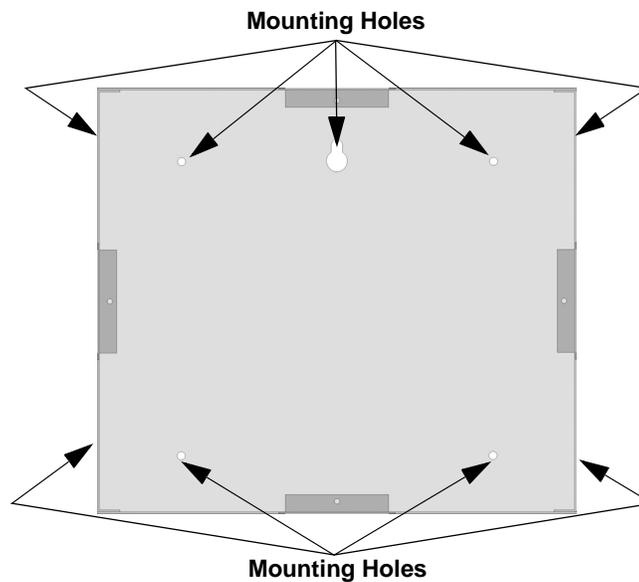

Figure 4-17 Back Box Mounting Holes
1. The back box dimensions are 9-9/32" w x 8-3/8" h. The minimum depth 2". The back box can be mounted prior to the complete installation of the RA-100 using any of the mounting holes shown in Figure 4-17.